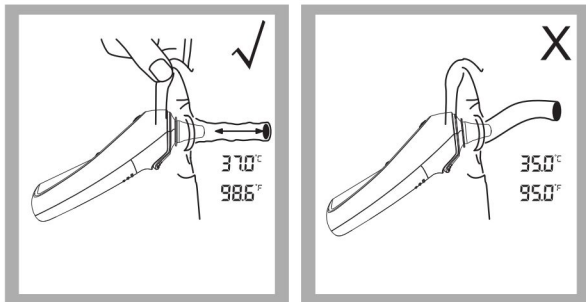

Figure 4
3. Insert the probe along the ear canal as deep as possible into the ear as depicted in Figure 4. Then press the *TEST BUTTON* once to start the measurement. A long beep will sound approximately 1 second after the *TEST BUTTON* is activated. This signals the end of the process as results are displayed on the LCD screen.